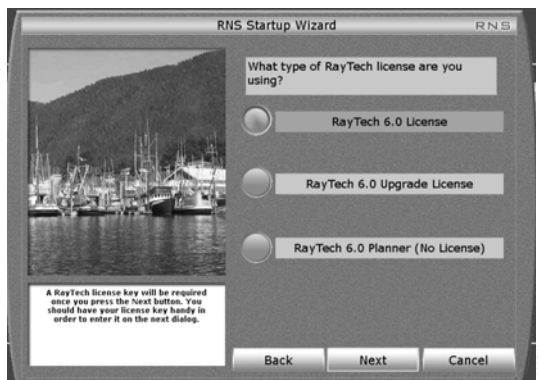

Figure 3-1: RayTech Startup Wizard Screen
1. Select **Start/Programs/Raymarine RayTech Navigator** from the Windows task bar. RayTech will load and the RNS Startup Wizard is displayed. See *Figure 3-1 on page 16*